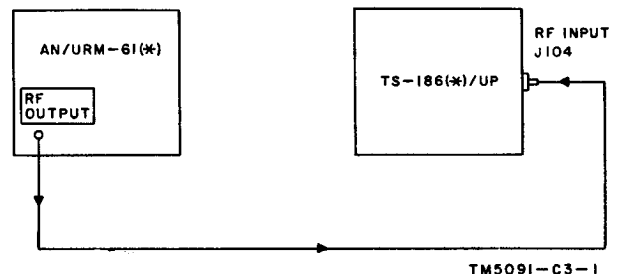

Figure 5-5. Frequency check test connections.
- a. Connect equipment as shown in figure 5-5.
- (1) Set the main tuning dial to 3000.
- (2) Set the oscillator modulation selector switch to OFF.
- (3) Adjust the ZERO SET control until the POWER SET meter reads ZERO SET.
- (4) Set the oscillator modulation selector switch to CW.
- (5) Adjust the POWER SET control until the output level reference meter reads 0 (zero) DBM.